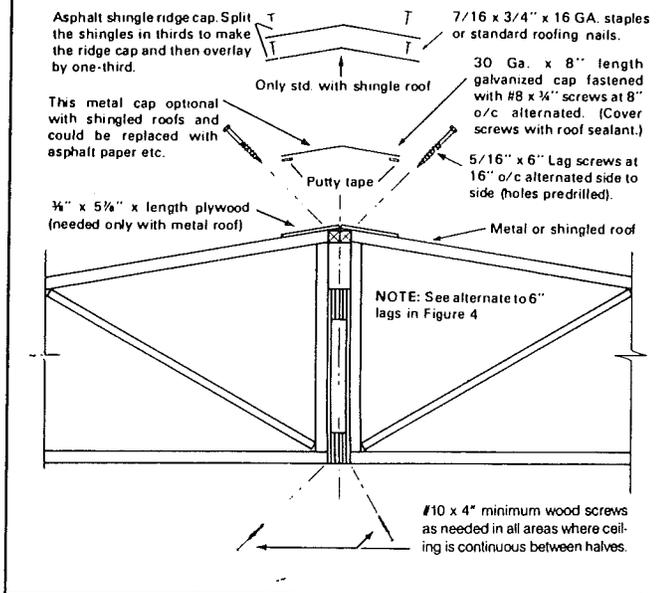

FIGURE 5
Step 9. Align and fasten the exterior end wall mating studs by using one of the methods shown in Figure 5.